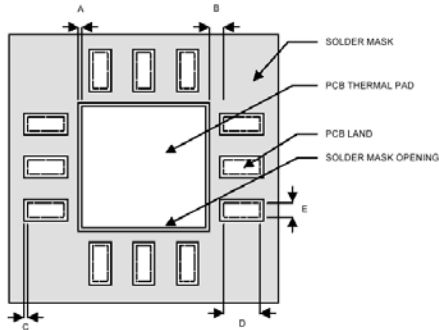

Figure 16. PCB Land and Solder Mask Recommendations
1. PCB land and solder masking recommendations are shown in Figure 16.